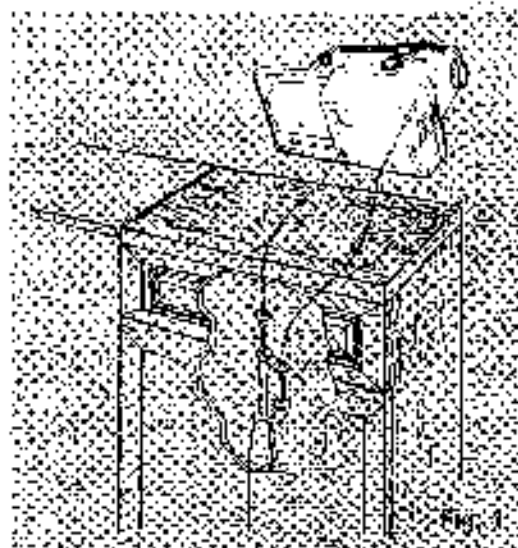

Fig. 1
1. To install the machine in cabinet, position machine head on cabinet platform so that holes on bottom of machine match those on boards. Insert washers and screws and tighten into place. (Fig. 1)